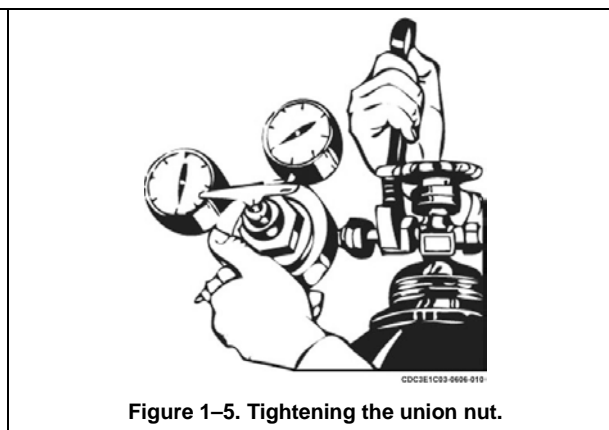

Figure 1-5. Tightening the union nut.
3. Attach the two-stage regulators to their respective cylinders and tighten the union nut with the torch wrench (fig. 1-5).